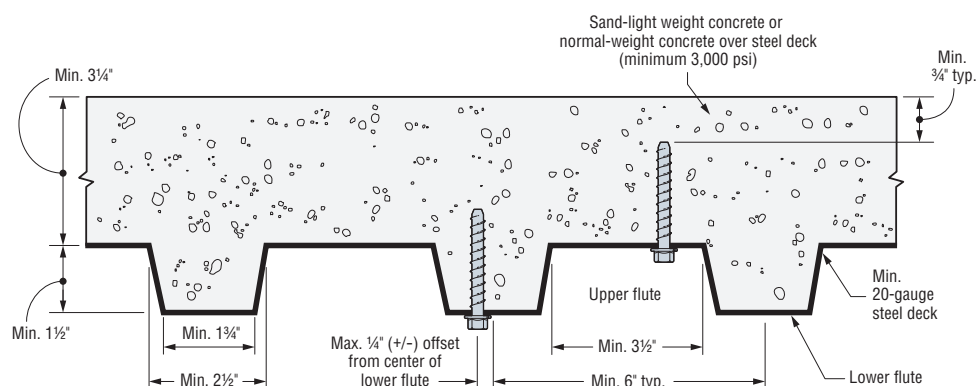

Figure 1 - Installation of 1/4" Shank Diameter Screw Anchor into the Soffit of Concrete-Filled Profile Steel Deck Floor and Roof Assemblies (1" = 25.4 mm)
- Installation must comply with Figures 1 and 2.